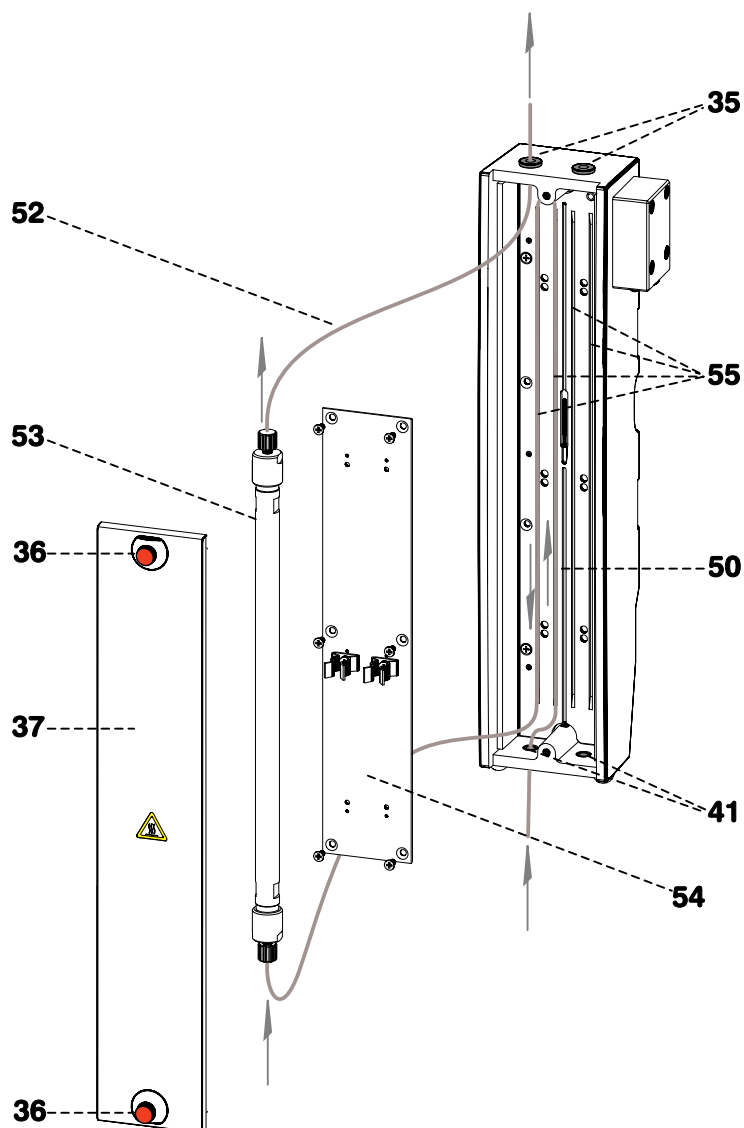

Fig. 20: Insert column in column heating
- Lead column connection capillary **50** (approx. 1 m PEEK-Capillary 6.1831.010) through feedthrough **41** in the column heating and place in the recesses in capillary prewarmer **55** as shown in *Fig. 20*.
Prepare column heating according to *Section 2.9.2* and screw column connection capillary **50** (see *Fig. 20*) with a compression fitting to injection valve **51**.
Connect outlet end of separating column **52** (see *Fig. 20*) with coupling (6.2744.040) to the inlet capillary **57** permanently mounted on the detector block **56**.